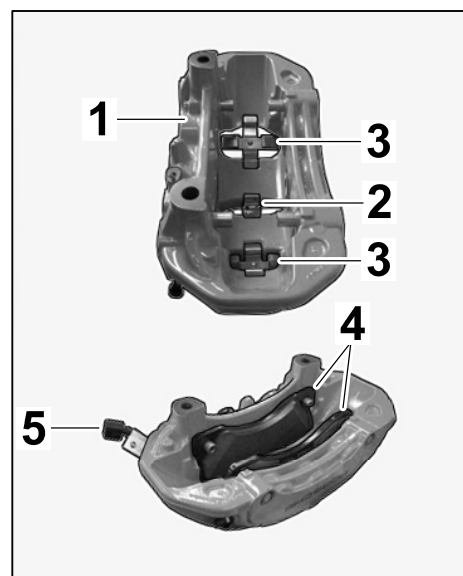

Figure 6
2.2.1 Position new brake pads (2 x, ⇒ *Figure 6 -4-*) on the pad retaining pins.
2.2.3 Slide the brake pad as far as it will go onto the pad retaining pin on the brake caliper ( ⇒ *Figure 6*).